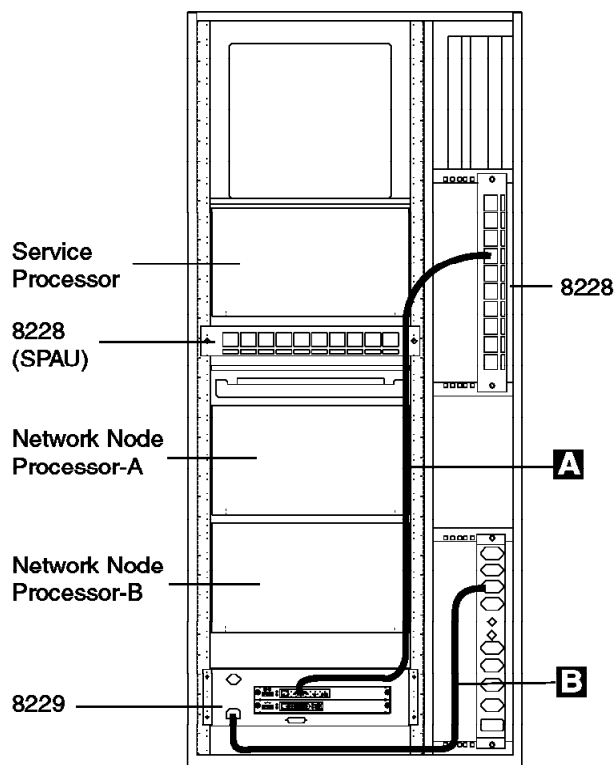

Figure 17. Connection of the Ethernet Bridge to the 8228 and Power
- 6. Connect the **ethernet bridge** to the **8228** using cable **A** PN 6339098 (2.4 m, 8ft). (See Figure 17 on page 27)